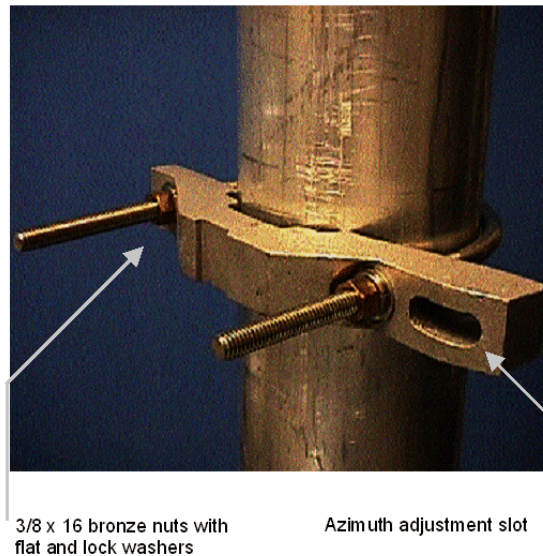

Figure 9-4: Azimuth Adjustment Plate
2. Referring to Figure 9-4, fix the azimuth adjustment plate to the pole. Use the U-bolt and flat washer, split lock washer, and 3/8" - 16 bronze nuts.
3. Slip the rod into the azimuth adjustment plate slot (see also Figure 9-4).